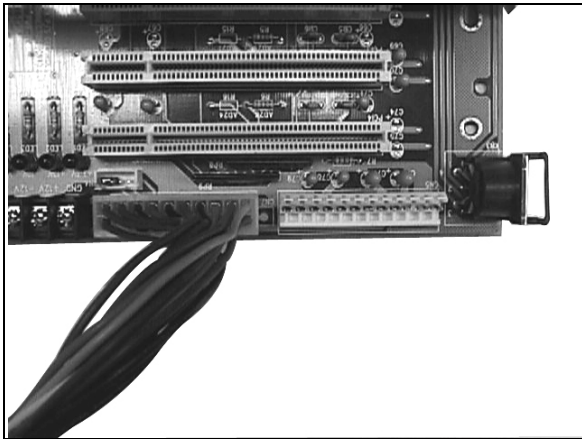
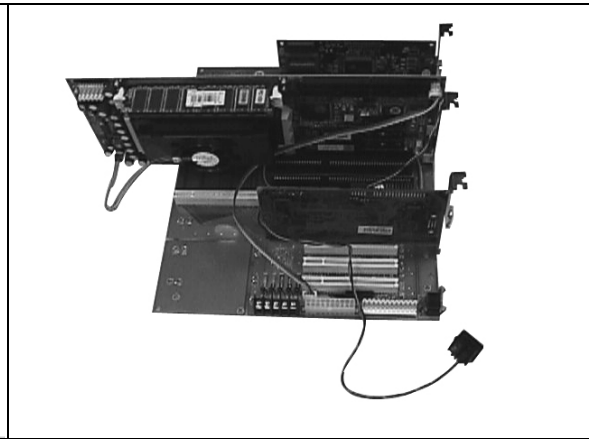

Fig. 3
Fig. 4
1. If you use AT power supply, please apply the P8/P9 connector over CN5 (**Fig. 2**). If you use ATX power supply, please apply the 20-pin ATX power connector over CN4 (**Fig. 3**). Besides, you need to apply one 4-pin ATX power control cable between your SBC and backplane over the 4-pin header CN7. (A toggle switch is required over your SBC for this application, **Fig. 4**).